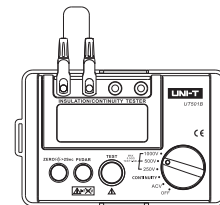

Figure 4
In order to check whether the measurement values are accurate or not, UT501B has been designed with a 10MΩ resistor. The resistor offers 1% accuracy for self - check internally. Refer to the wiring operation as follows: (See Figure 4)
**Operating instructions:** connect wire as indicated in the figure 4, then switch to any insulation measurement range, press down TEST button, LCD will display the value 10.0MΩ.